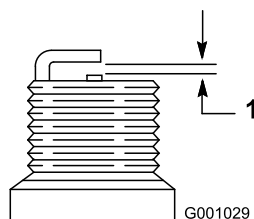

Figure 46
- 7. Set the gap between the electrodes on a new spark plug at 0.030 inch (0.76 mm) (Figure 46).